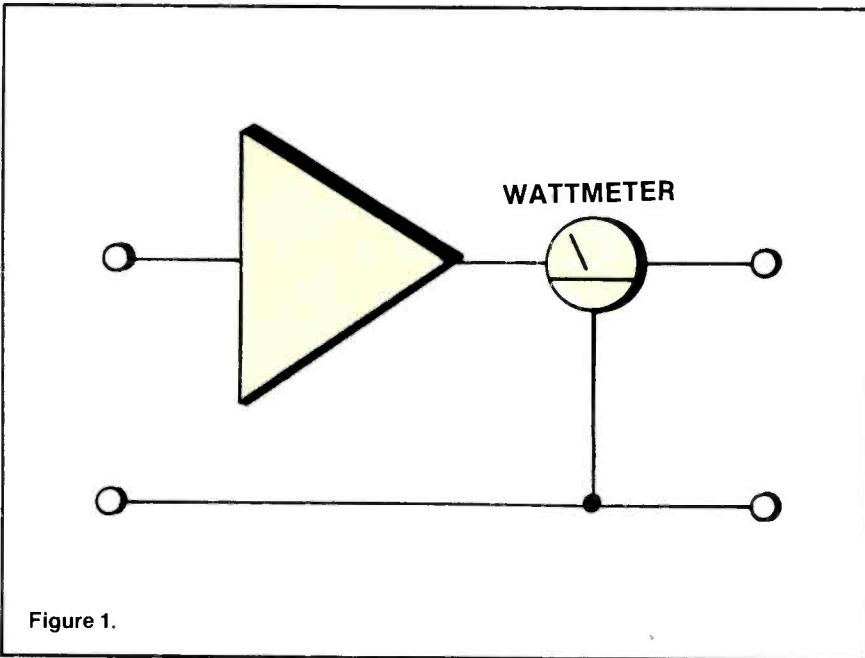

Figure 1.
Consider the simple amplifier of Figure 1. It will, for the purpose of this discussion, be considered to be perfect. In other words, it will amplify the signal, but it will not add any noise to that signal. The output power is measured by the wattmeter (W), so, with no input signal, there is no output power to be measured.